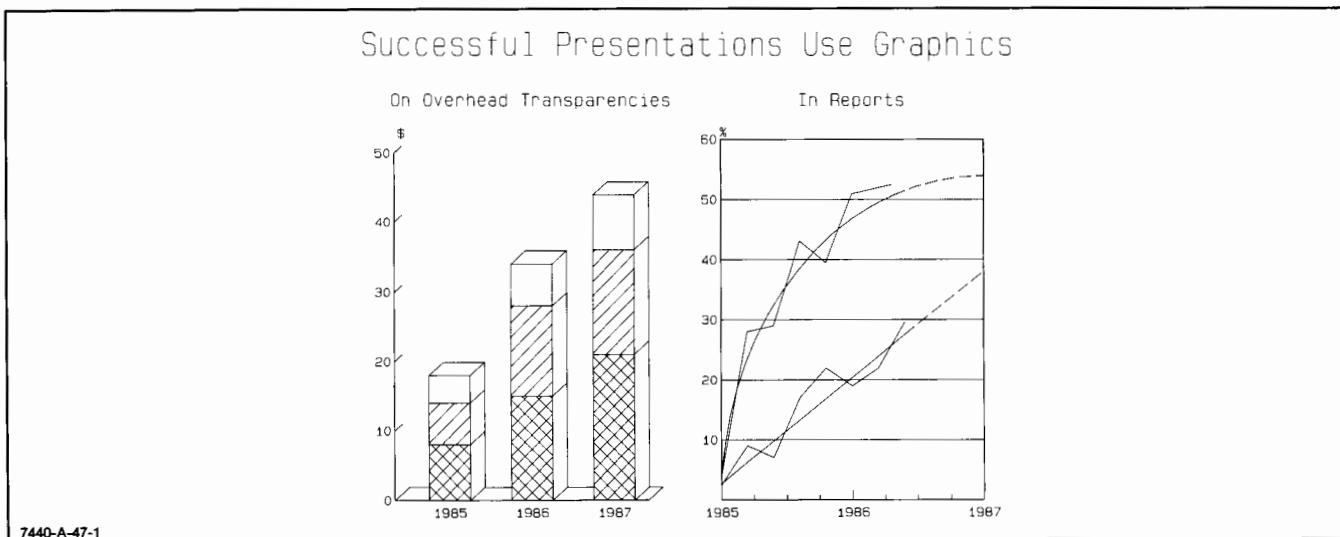

Figure 3-4. Demonstration Plot, without GEC
- If the plotter does not have a Graphics Enhancement Cartridge (GEC) installed, compare the demonstration plot to the plot in Figure 3-4. The
- two plots should be the same except that the plot in Figure 3-4 has been reduced in size.